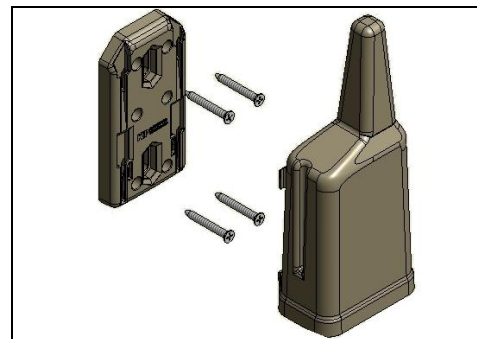

Figure 2: Wall Mounting
1. Fasten the mounting bracket on the wall with four screws (See figure 2)